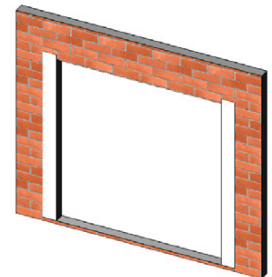

Figure 16:
2. At each jamb, embed the flashing paper into the sealant onto mounting flange and fasten into place. The flashing paper should be cut sufficiently long enough to extend at least 3 in. past the weep-screed flashing and at least 6 inches above the head of the product (Figure 16).